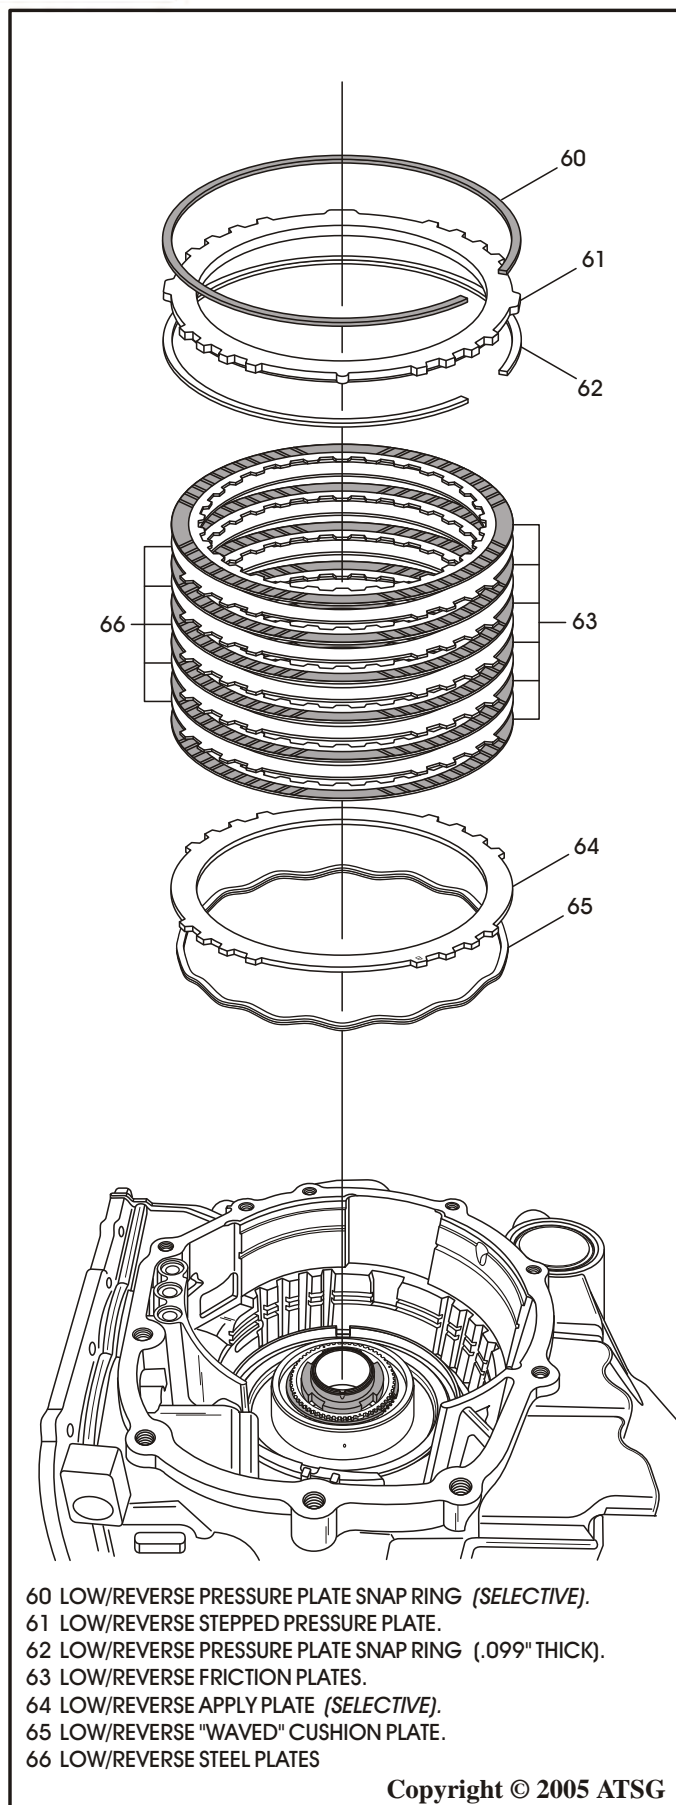

Figure 173
42. Install the low/reverse "Waved" cushion plate, as shown in Figure 173, on top of piston.
43. Install the low/reverse clutch selective apply plate, as shown in Figure 173.
44. Install the low/reverse clutch plates beginning with a friction and alternating with steel plates, as shown in Figure 173.
45. Install the .099" snap ring into the case groove, as shown in Figure 173.